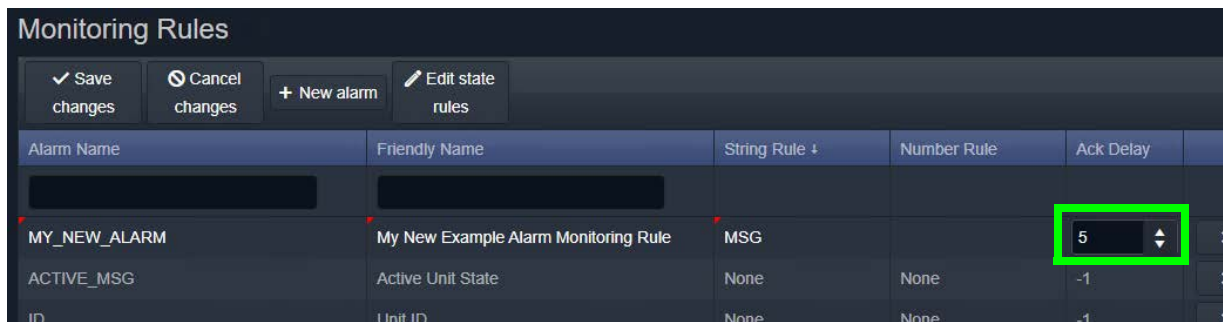

Figure 63: Select an Ack Delay Figure (seconds)
- If an auto-acknowledge is required, set the timeout period (**Ack Delay** figure in seconds, -1 = no auto-acknowledge). See Figure 63.